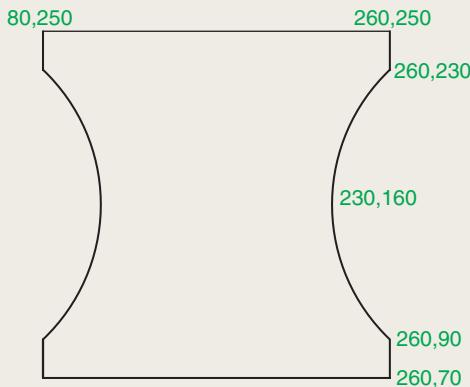

Fig. 3.45 Exercise 1
1. Using the **Line** and **Arc** tools, construct the outline given in Fig. 3.45.